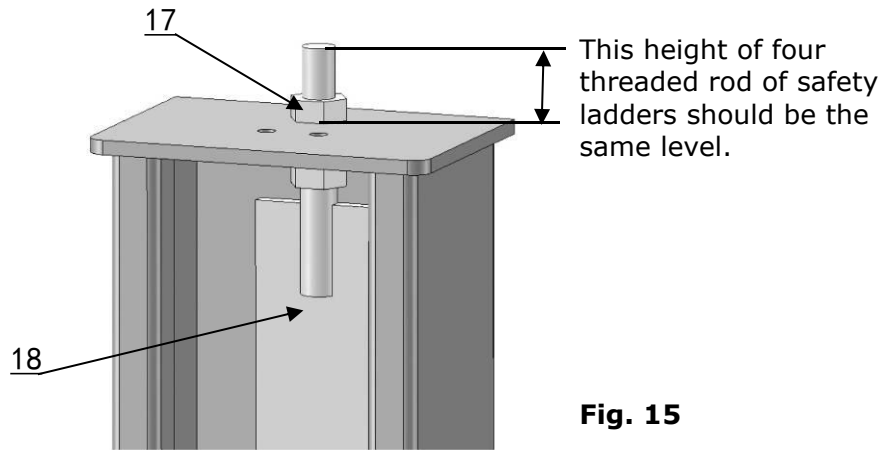

Fig. 15
2. Install Safety Ladders (See Fig. 15).